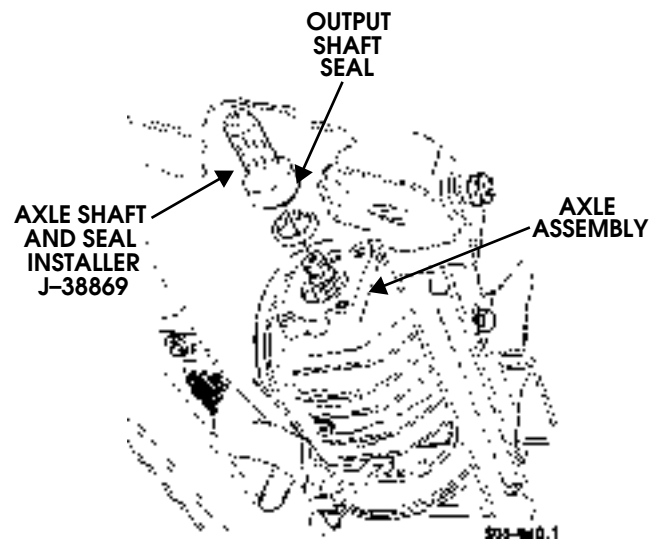

Figure 9-54: Axle Output Shaft Seal Replacement
6. Remove output shaft seal from axle (Figure 9-54).
1. Using seal installer J-38869, install output shaft seal in axle assembly (Figure 9-54).